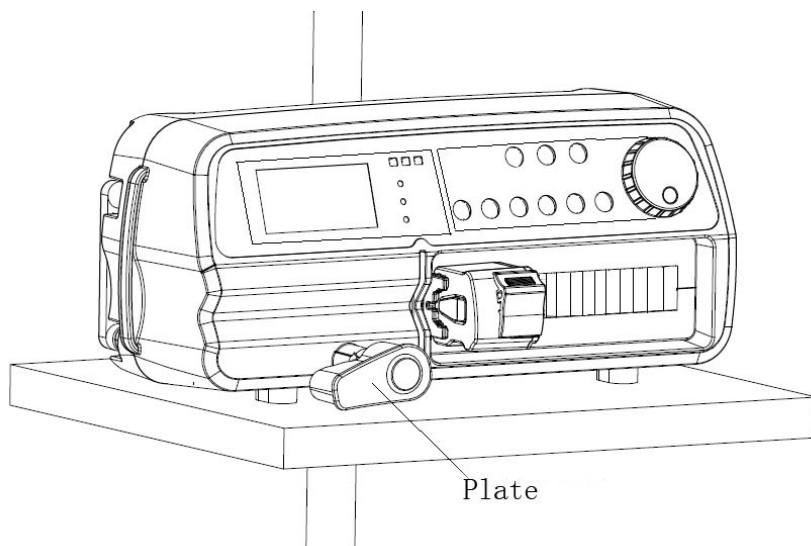

Figure 5.2
2. Withdraw and rotate the syringe plate 90 degrees (refer to Figure 5.2).